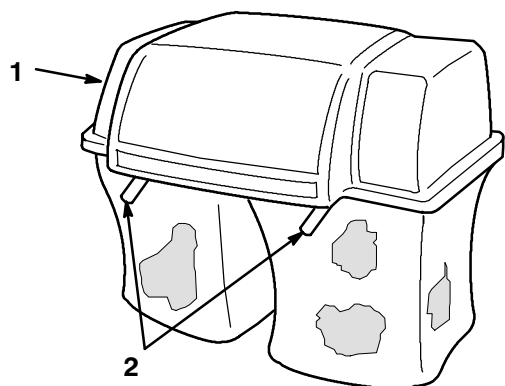

Figure 26
6. Lower the bagger top onto the bags. Then push down on both bag retainer handles until they lock on the bag frame (Fig. 26).